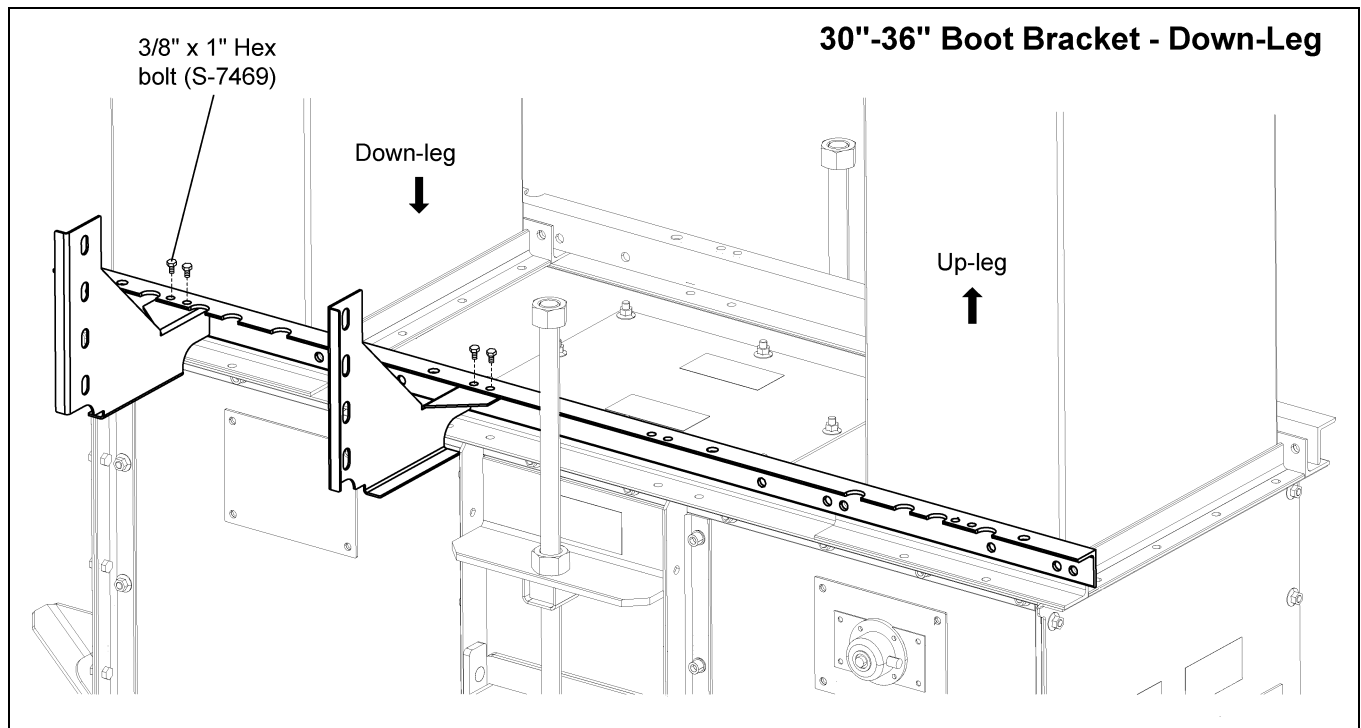
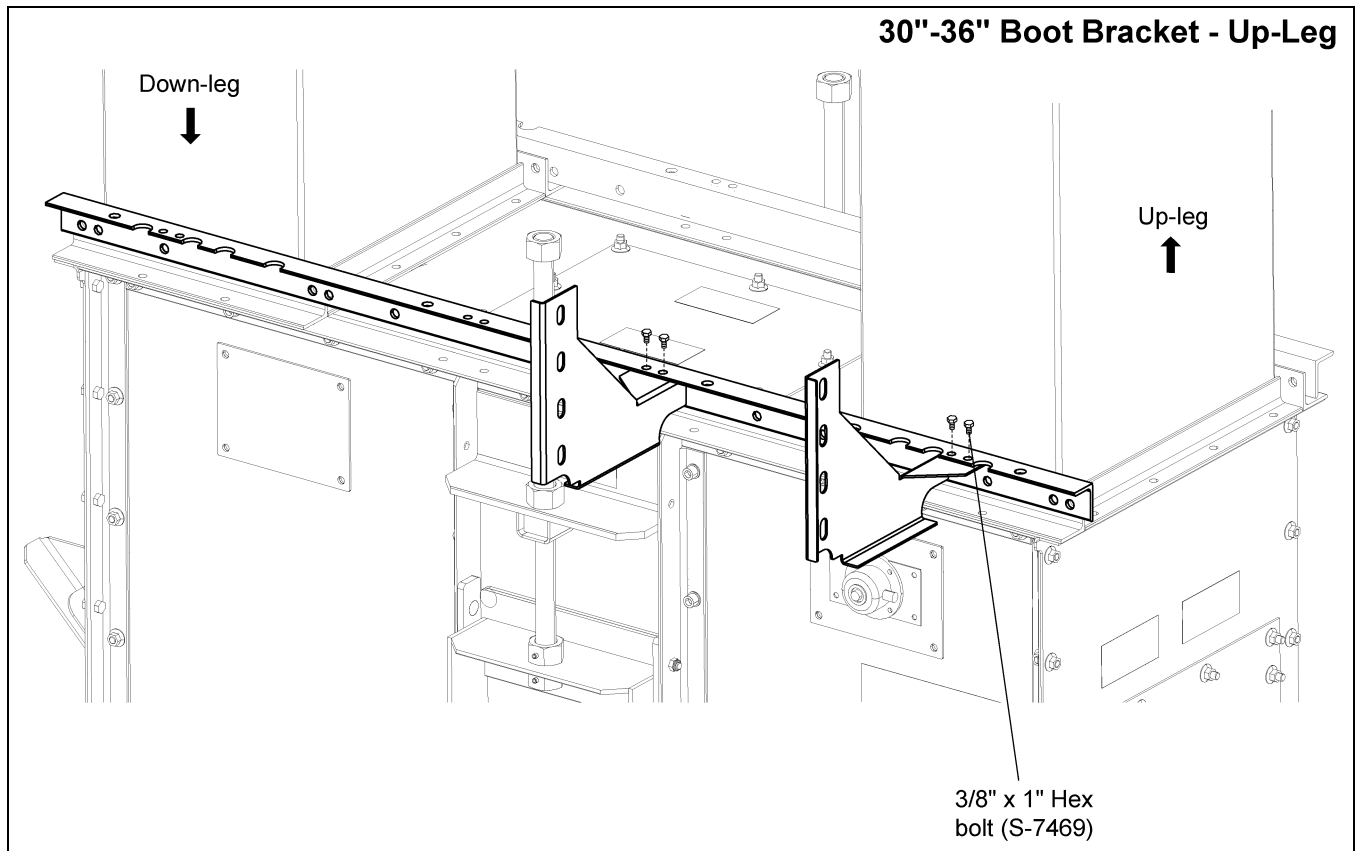

Figure 6C 30"-36" Boot Bracket Down-Leg
Figure 6D 30\"-36\" Boot Bracket Up-Leg
1. Use the holes indicated based on bucket elevator size in Figure 6C and attach ladder support brackets to boot tie angle using 3/8" x 1" hex bolts. Remember to double check if the ladder should start on the up-leg side or the down-leg side. (See Figure 6C below and Figure 6D on Page 26.)
- a. **30"-36" Down-Leg Bracket:** Use 3/8" x 1" hex bolts to attach the ladder support brackets to the boot tie angle using the holes indicated in Figure 6C. Note the outer bracket uses the first set of holes on the outside.
- b. **30"-36" Up-Leg Bracket:** Use 3/8" x 1" hex bolts to attach the ladder support brackets to the boot tie angle using the holes indicated in *Figure 6D*. Note the outer bracket uses the first set of holes towards the outside.